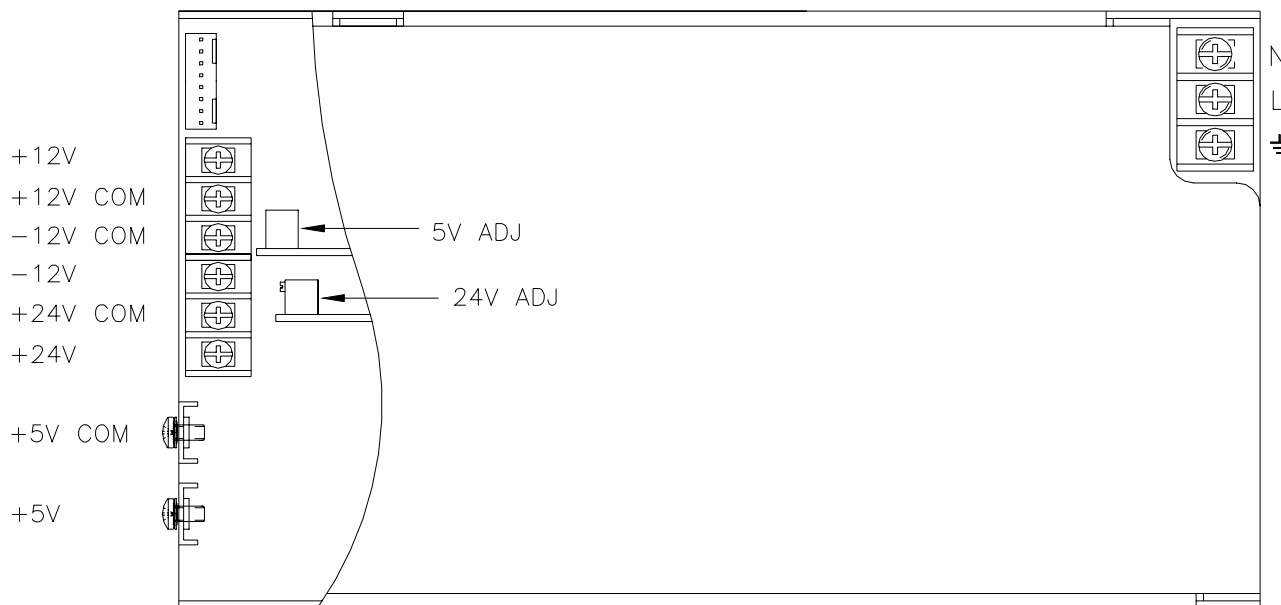

Figure 6-8
1. With the MX-20 turned on and all system components connected, measure the voltages at checkpoints shown in Table 6-2 and in Figure 6-8. **Caution:** Because of the limited space around the output terminals, use insulated test probes, and be extra careful to prevent shortening of circuits.
2. If any of the voltages are outside the limits of minimum or maximum shown in Table 6-2, adjust the respective trim potentiometer as shown in Figure 6-8. For the adjustments, use appropriate insulated alignment tools.